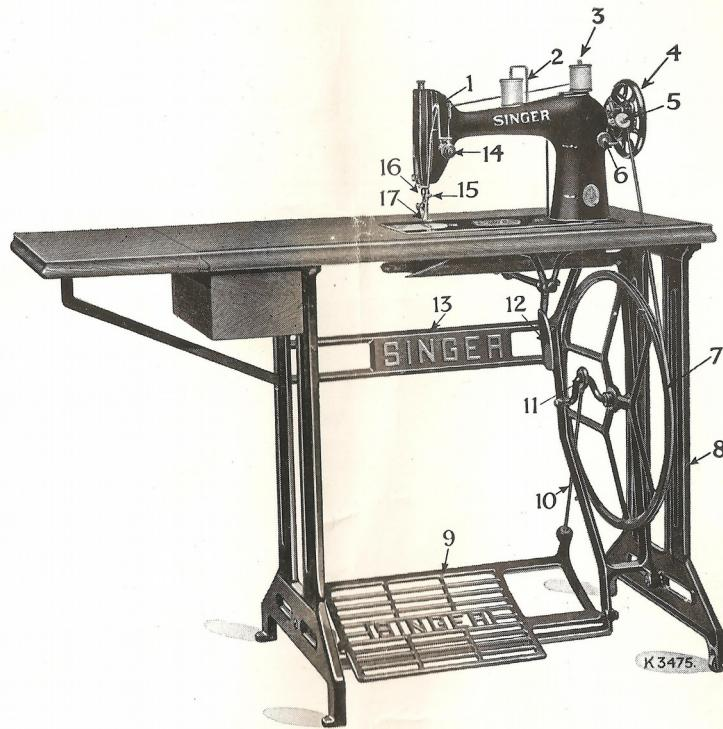
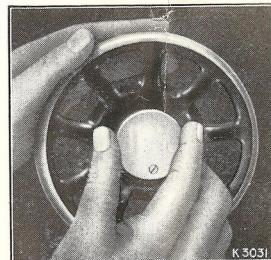

Fig. 2.
Fig. 3.
This device enables the operator to loosen the balance wheel so that it will revolve freely, without operating the stitching mechanism, while a correct treadle motion is being acquired, and when winding bobbins. To loosen the wheel, hold it with the left hand, and with the right hand turn the stop motion screw over towards you, as shown in Fig. 3.
Loosen the balance wheel by turning the stop motion screw over towards you (see Fig. 3), and place a reel of thread on the reel pin (7, Fig. 2). Pass the end of thread around the spool pin (1) then thread the bobbin winder by passing the thread first through the lower eyelet (5) of the thread guide from below and into the notch (3) at its top. Now pass the thread through a hole in the left disc of the bobbin from the inside, and with the left hand press the bobbin on to the spindle (2) and hold. Then with the right hand turn the small pulley (6) until the notch in the right disc of the bobbin is engaged by the small pin in the spindle shoulder. Press the pulley down against the ledge of the balance wheel until the latch retains the winder in position ; hold the free end of the thread and proceed to wind by turning the balance wheel towards you ; then after a few turns break off the end of thread and again operate the treadle, as in sewing, until the bobbin is full. The winder stops automatically when the bobbin is full.